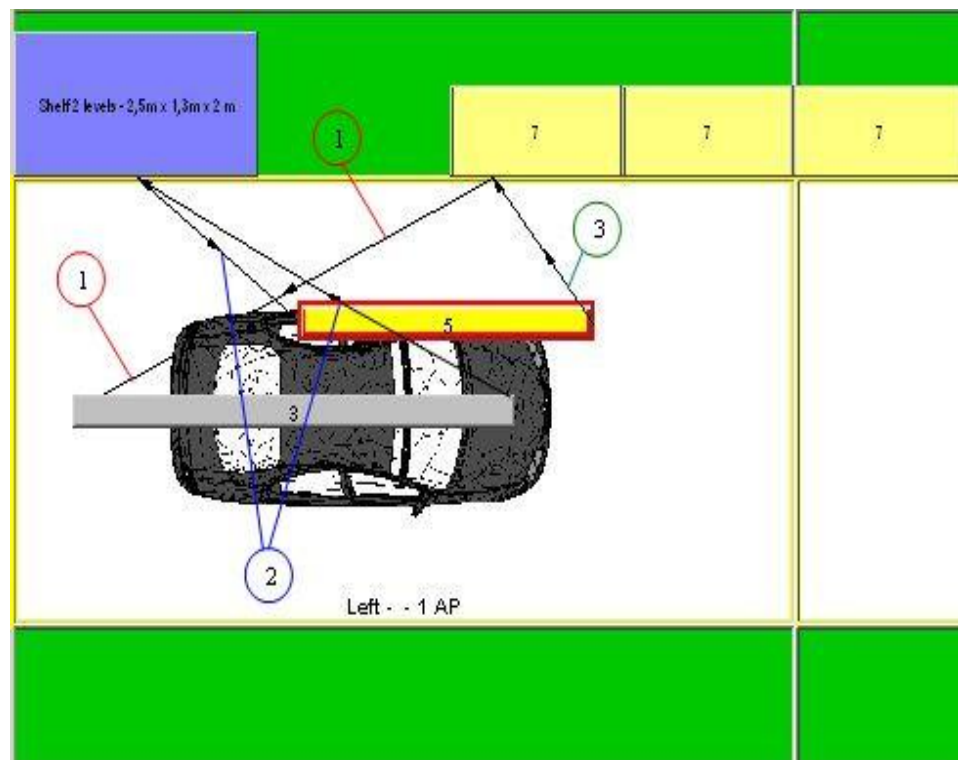

Figure 258: Option is not Activated in all Parts Bins
- An employee fetches the parts for processes in work from the marked parts bin. Please refer to the Figure 258.